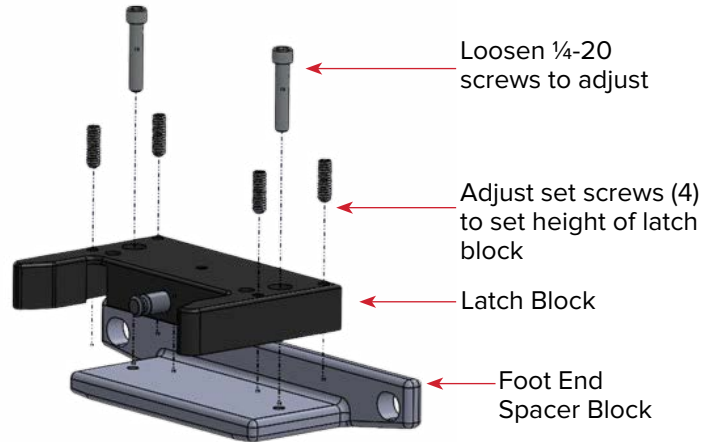

Fig. 8
4. Begin by adjusting the height of the Foot Latch Mounting Block on the existing CT, by loosening the Locking Screws (2) ¼-20 bolts (Fig. 8).